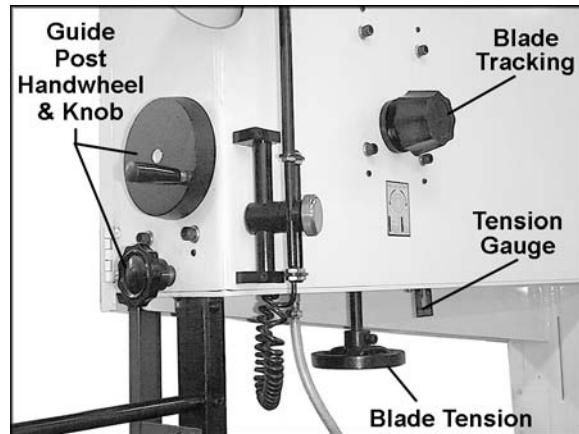
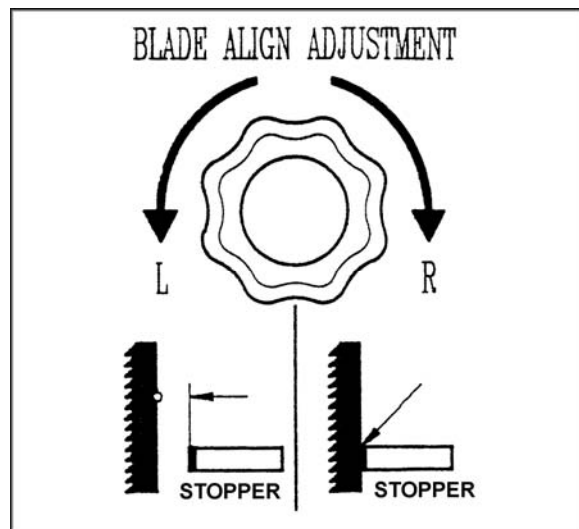

Figure 6
Figure 7
4. Loosen tension on the blade by turning the tension handwheel (Figure 6) to the left.
Rotate blade tension handwheel to the right to increase tension on the blade, to the left to decrease tension on the blade. Initially, set the blade tension to correspond to the width of your blade, as indicated on the tension gauge (Figure 6). As you become familiar with the saw, you may find it necessary to change the blade tension from the initial setting, depending on the width of the blade as well as the material being worked.
6. If the blade does not track properly, rotate the blade tracking knob (Figure 6) clockwise to move the blade toward the front of the wheel (as viewed from the front of the saw) or counterclockwise to move the blade toward the rear of the wheel. NOTE: This will also move the blade away from or toward the stoppers on the blade guide assemblies, as shown in Figure 7.
For effective cutting and for safety's sake, there should be a minimum amount of space between the top of the workpiece and the bottom of the blade guides. Loosen the locking knob (see Figure 6) and rotate the handwheel (Figure 6) to raise or lower the guide post so that the guides clear the workpiece by about 3/16".